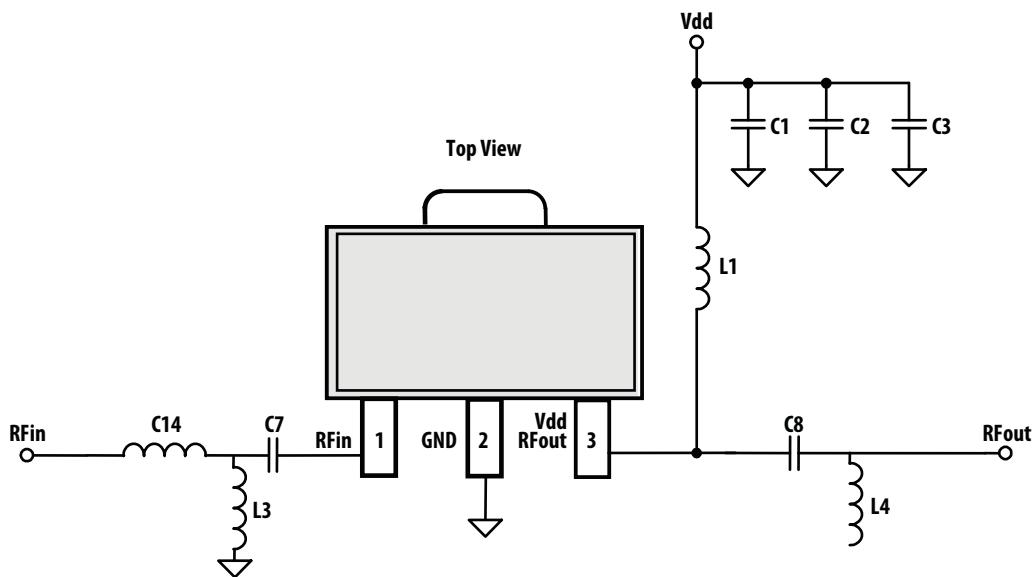

Figure 30. Application Schematic
1. Measurements obtained using demo board described in Figure 30 and 31. 3.5GHz data was taken with 3GHz - 4GHz Application Test Circuit and 5GHz data with 1.5GHz - 2.6GHz Application Test Circuit respectively.
$T_A = 25^\circ\text{C}$ ,  $V_{dd} = 5\text{V}$ , Input Signal=CW. Application Test Circuit is shown in Figure 30 and Table 2.
$T_A = 25^\circ\text{C}$ ,  $V_{dd} = 5\text{V}$ , Input Signal=CW. Application Test Circuit is shown in Figure 30 and Table 3.